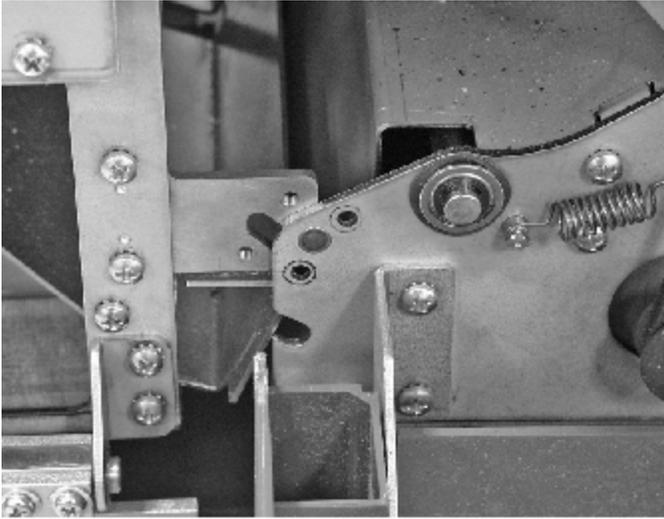

Figure 16 Position Mounting Bracket Partially on Front and Rear (Drive Side) Studs; then Push HCSF Forward So Brackets Fully Engage Studs
- a. Lift the front (exit end) of the HCSF so that the mounting brackets on either side are positioned over the corresponding mounting studs as shown in Figure 16. It is easiest to position the brackets partially over the studs as shown.